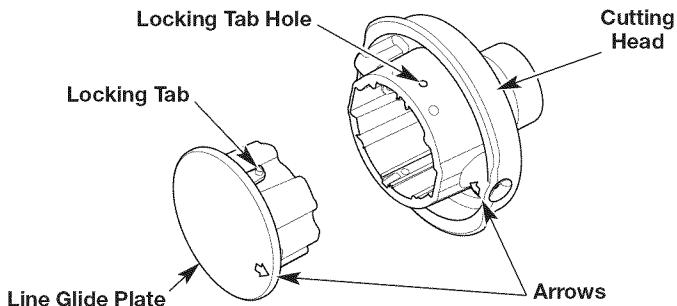

Fig. 15
2. Insert a small Phillips screwdriver into the locking tab hole and push the locking tab inward (Fig. 15). At the same time, pull the line glide plate out of the cutting head.
4. Align the arrow on the line glide plate with the arrow on the cutting head (Fig. 15).